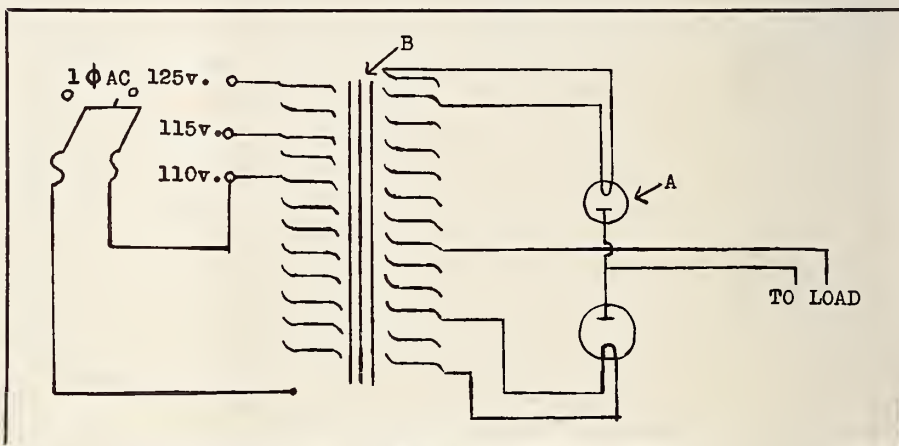

FIGURE 1.
8. In the schematic wiring diagram of a tungar charger (Fig. 1), "A" represents the:
7. In the schematic wiring diagram of a tungar charger (Fig. 1), "B" represents the: